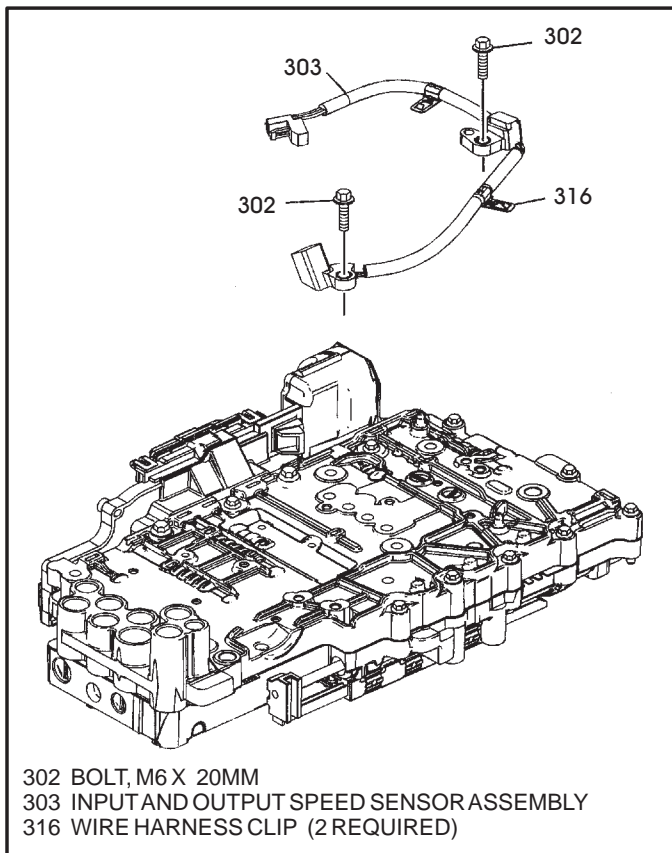

Figure 136
1. Remove the input and output speed sensor assembly by removing the retaining bolts on each sensor, as shown in Figure 136.